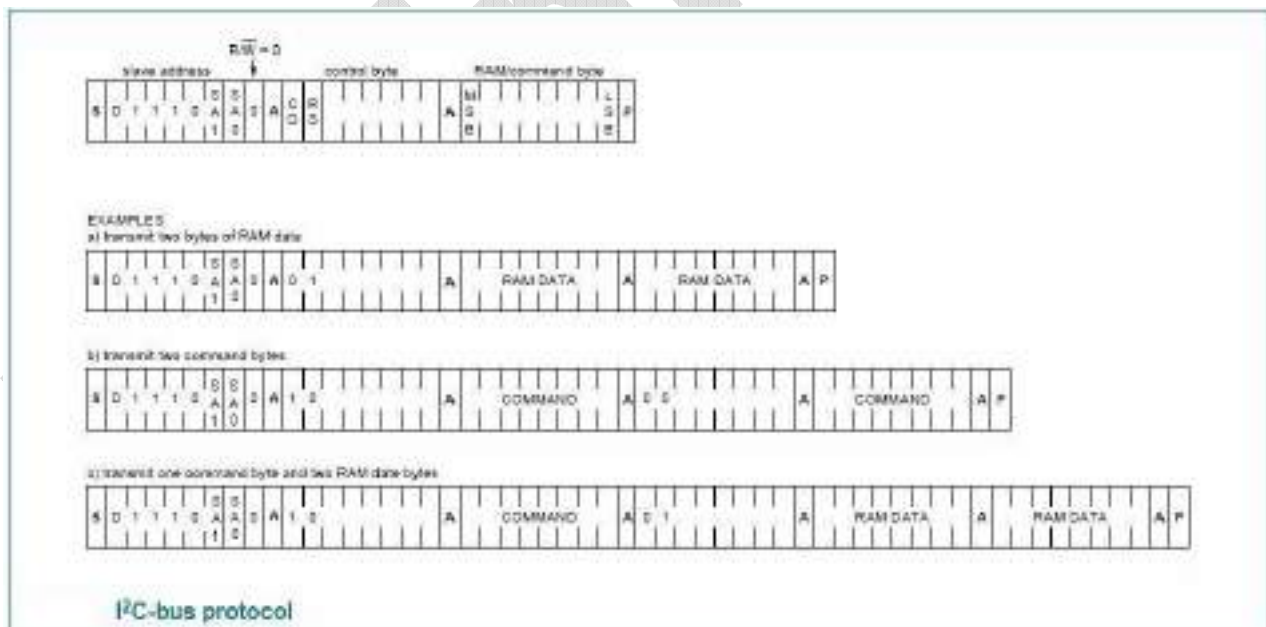

Fig. 14
The I2C-bus protocol is shown in Figure 14. The sequence is initiated with a START condition (S) from the I2C-bus master which is followed by one of two possible RW1033 slave addresses available. All RW1033s with the corresponding SA1,SA0 level acknowledge in parallel to the slave address, but all RW1033 with the alternative SA1,SA0 level ignore the whole I2C-bus transfer.